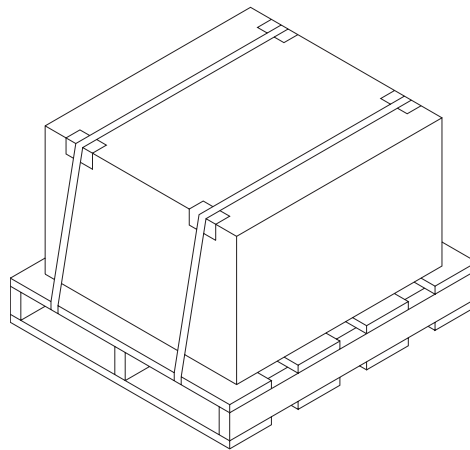

Figure 9-7 Strapping the shipping carton to the pallet
11. Secure the box to the wooden pallet using banding material, as shown in Figure 9-7.